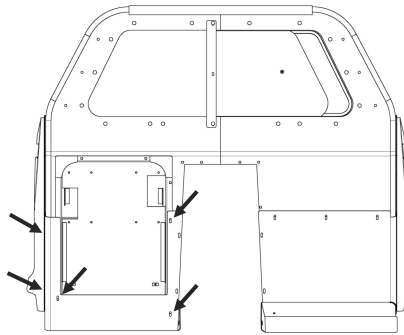

Figure 7b
- E. Place the Viper Shield Lower Extension Panel [3LEP472003] into the vehicle and slide the outside flange between the partition and the mounting plate as was done in Step B for the passenger side. Align the three holes in the face of the panel with the corresponding holes in the Viper Shield Housing and align the two holes along the outside of the panel with their respective holes in the mounting plate (Fig 7b).
- F. Loosely install a carriage bolt [3X36] and a whiz nut [3X16Z] into each of the (5) holes identified in the previous step. Install the fasteners such that the smooth head of the carriage bolt is facing towards the rear of the vehicle.